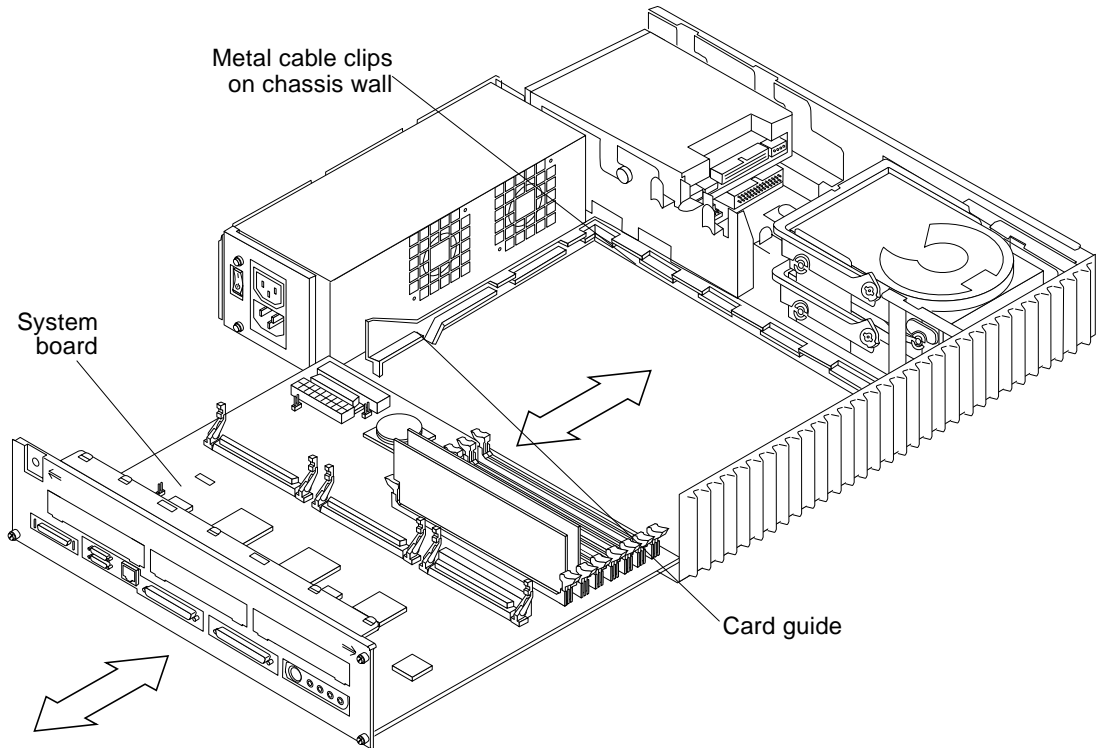

FIGURE 8-34 Removing the System Board
4. **Position the system board into place and tighten the two captive screws on the back panel that secure the system board to the chassis (FIGURE 8-34).**
4. Loosen the two captive Phillips-head screws that secure the system board to the rear chassis (FIGURE 8-34).
5. Pull the system board from the back of the chassis until it clears the plastic card guide (FIGURE 8-34).